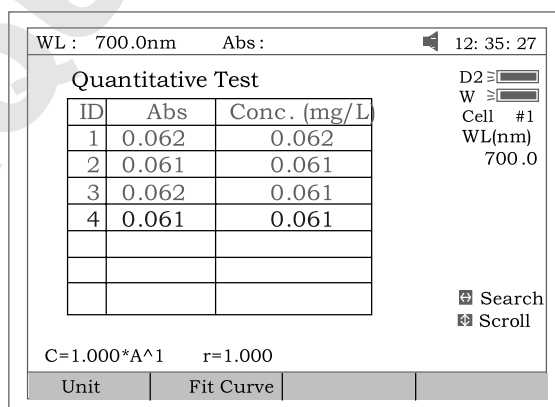

Fig 38
4.2 Pull the sample cuvette into the light path, press the key **【START/STOP】**, the results will be displayed on the screen (Fig 38).